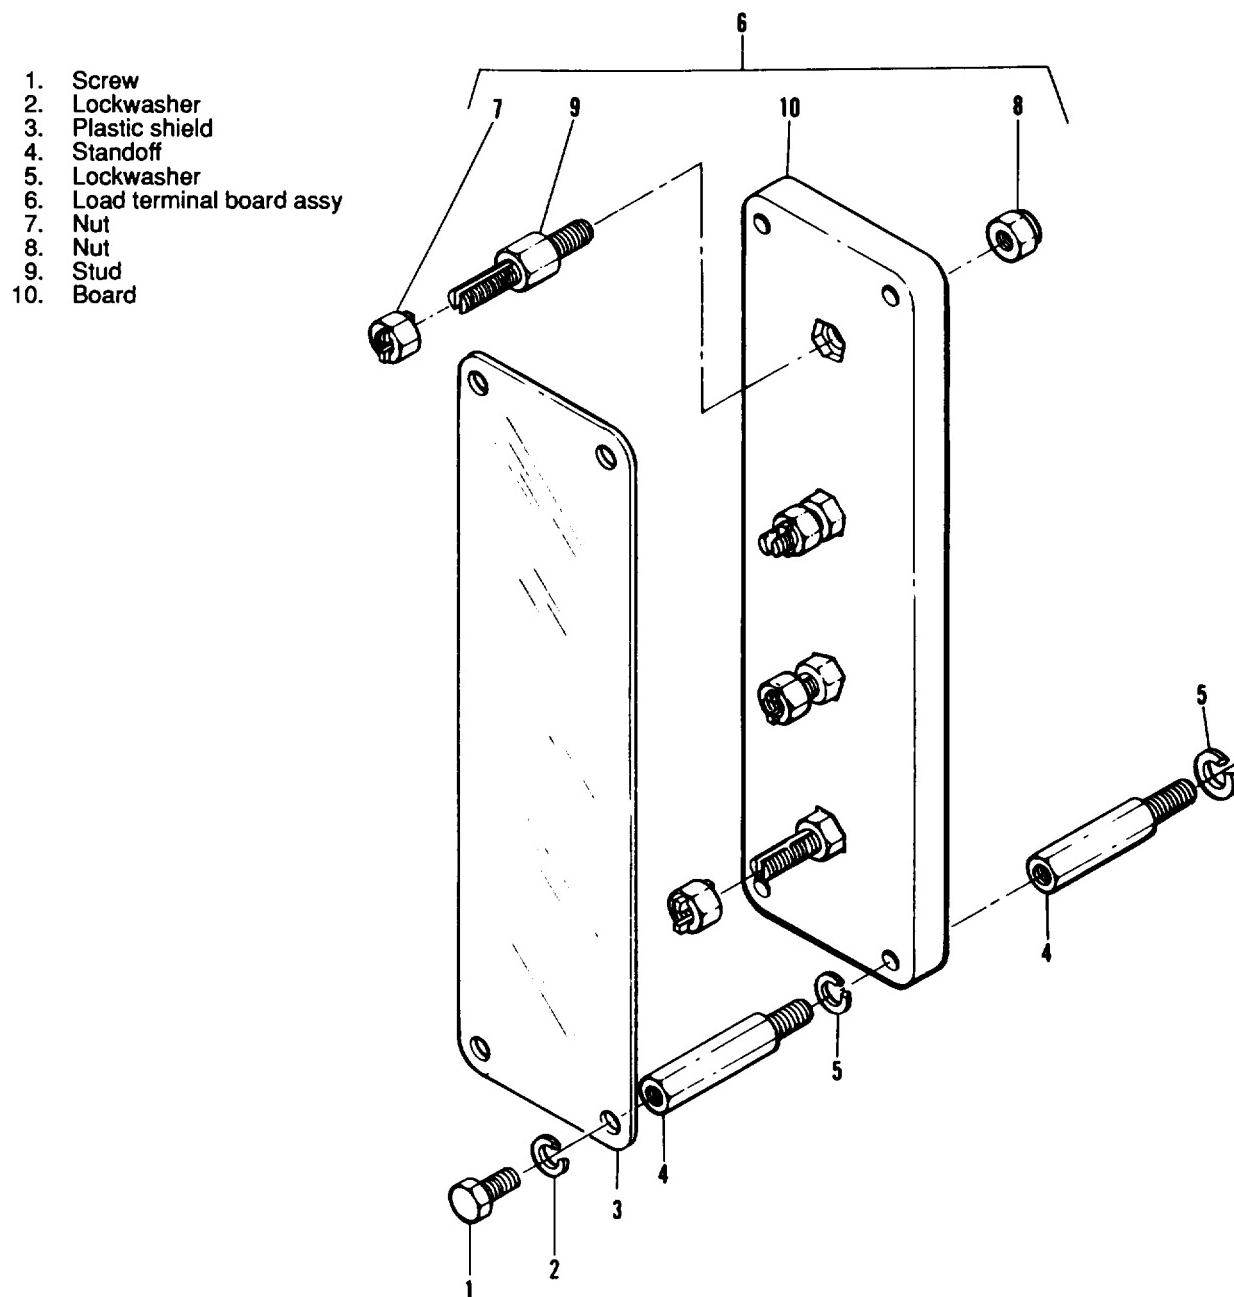

Figure 3-106. Load Terminal Board Assembly, Exploded View
- (1) Tag and disconnect electrical leads to load terminal board assembly.
- (2) Remove screws (1, figure 3-106), lockwashers (2) and plastic shield (3).
- (3) Remove stand-off (4) and lockwashers (5) to remove load connection terminal board assembly (6).
#### b. Disassembly. Remove nut (7, figure 3-106), nut (8), stud (9) and board (10).
- (1) Clean load terminal board with filtered compressed air and a soft bristle brush.
- (2) If necessary, wipe load terminal board assembly with a clean, lint-free cloth moistened with an approved solvent.
- (3) Inspect load terminal board for warping, cracks, damaged threads, corroded terminals, and burns.
- (4) Replace any damaged or defective parts.
#### d. Assembly. Position board (10, figure 3-106) to install stud (9), nut (8), and nut (7).
- (1) Position load terminal board assembly (6, figure 3-106) to install lockwashers (5) and standoff (4).
- (2) Install plastic shield (3), lockwashers (2) and screws (1).
- (3) Connect electrical leads to load terminal baard assembly.